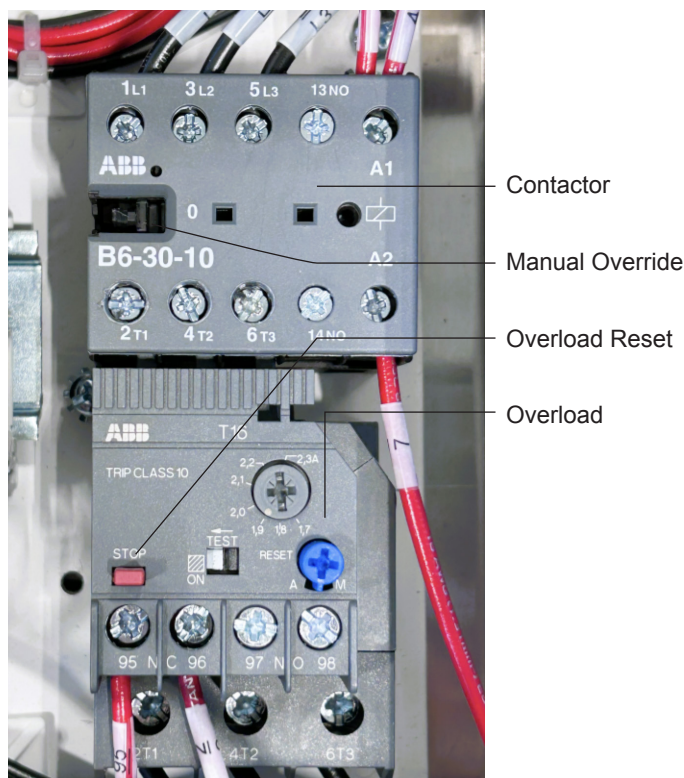

Figure 37. Continuity/Resistance Test
2. Locate the WasteXpress overload and contactor block in the upper right-hand corner of the control (Figure 37).